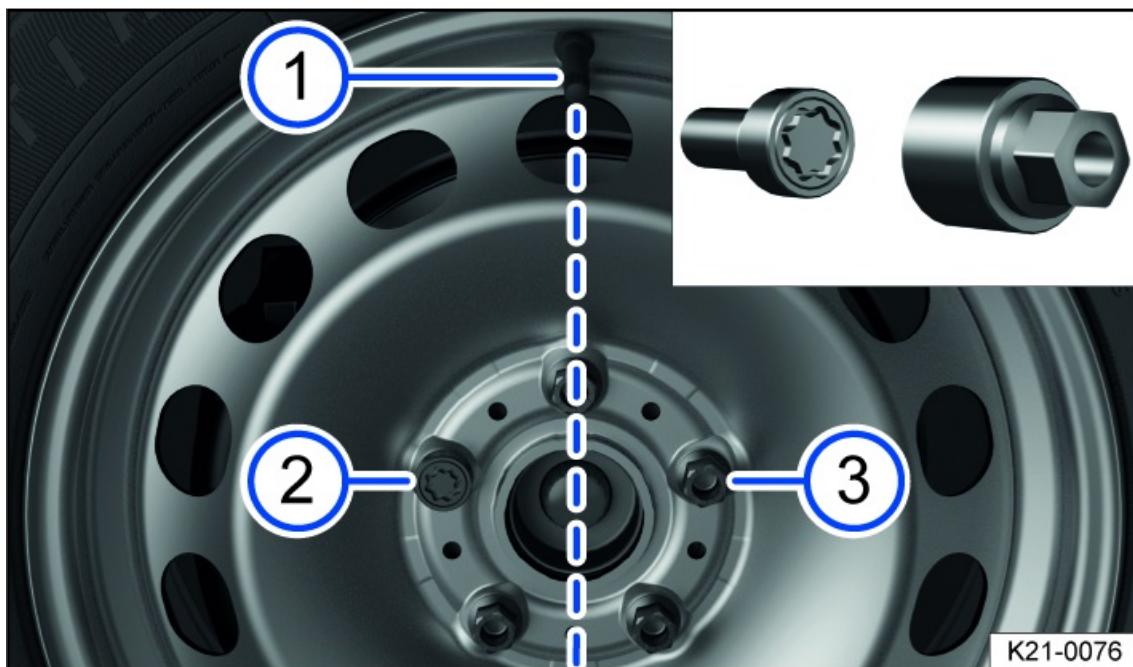

Fig. 179 Make sure the anti-theft wheel bolts are positioned correctly.
On wheels with full wheel covers, the anti-theft wheel bolt must be fitted in position *fig. 179* ② or ③, based on the position of the tire valve ①. Otherwise, it will not be possible to install the full wheel cover.